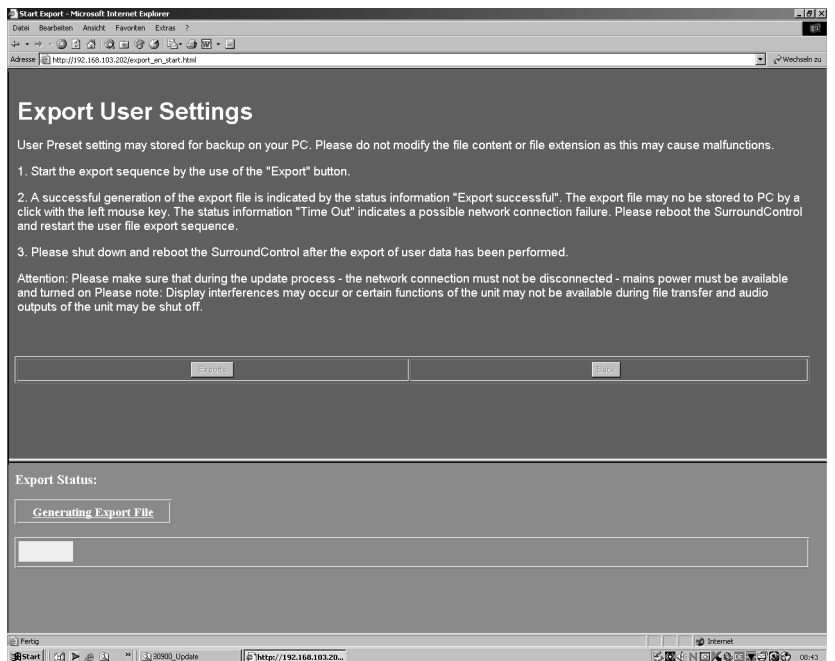

Fig. 5-4: The export is running
4. The export of the user setting data starts (see Fig. 5-4). Generating Export File is displayed, a yellow bar is showing the progress of the export.